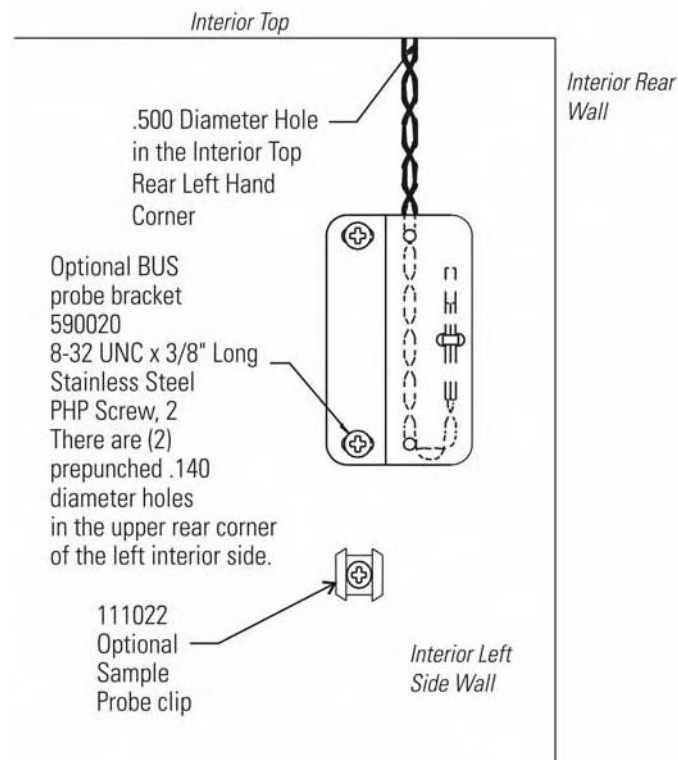

Figure 6-4. Probe Bracket
1. Locate the 0.500" pre-punched hole in the upper left back corner of the chamber ceiling. Remove the tie wrap securing the coiled probe/solenoid harness. Uncoil the probe lead and run the probe tip (approximately 12") down through 0.500" porthole (Figure 6-4).
3. Tap #8-32 the two pre-punched holes located on the interior left wall of the freezer. Mount the bracket. Figure 6-4 shows the Back-Up probe mounted on the interior left side wall of the freezer.